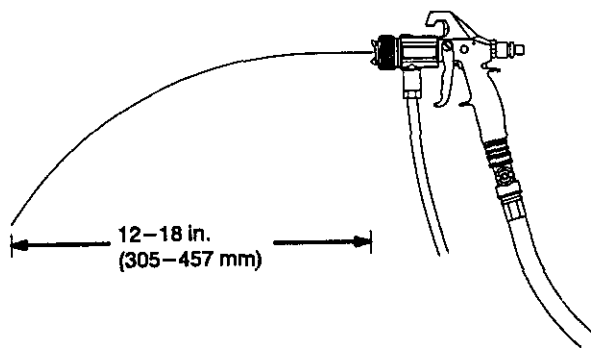

Fig. 7
2. If a remote pressure pot is used, hold the gun parallel to the floor and adjust the fluid pressure to yield a 12 to 18 inch (305 to 457 mm) fluid stream. See Fig. 7.